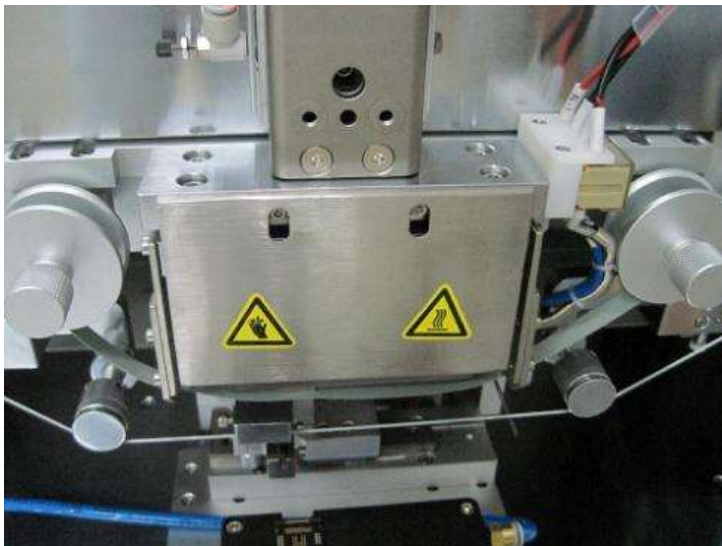

Figure 4.6
4.3.1 Wind interposer onto the interposer supply reel until it is full of material. Thread it through prebonder and attach it to interposer take-up reel as shown in figure 4.6. Please note that you must wind it through the two slots in the alignment bars located to the left and right side of the thermode.